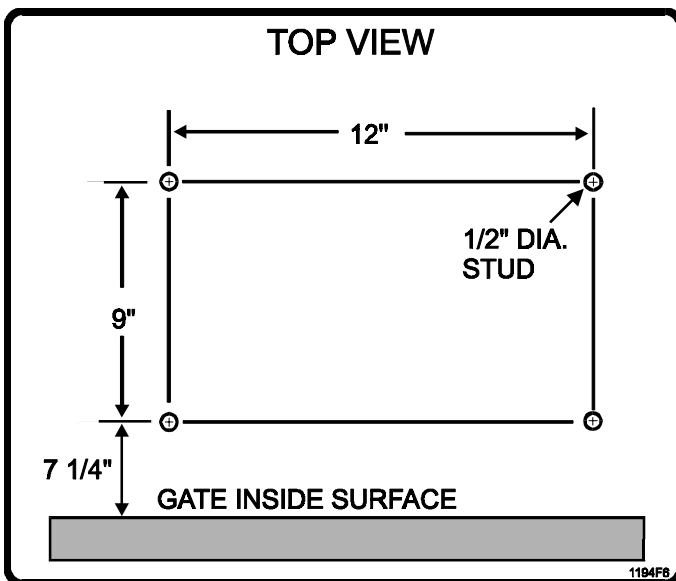

Figure 5. Bolt Down Pattern.
3. Four anchor bolts are required to secure the gate operator to the pad. The mounting holes in the gate operator are 5/8" in diameter. 1/2" x 3 1/2" Red Head bolts are recommended (Figure 5).
If necessary, use the manual controls on Manual Input Terminal TB2 (OPEN, CLOSE, and STOP, as shown in Figure 5), to move the gate arm during system installation.